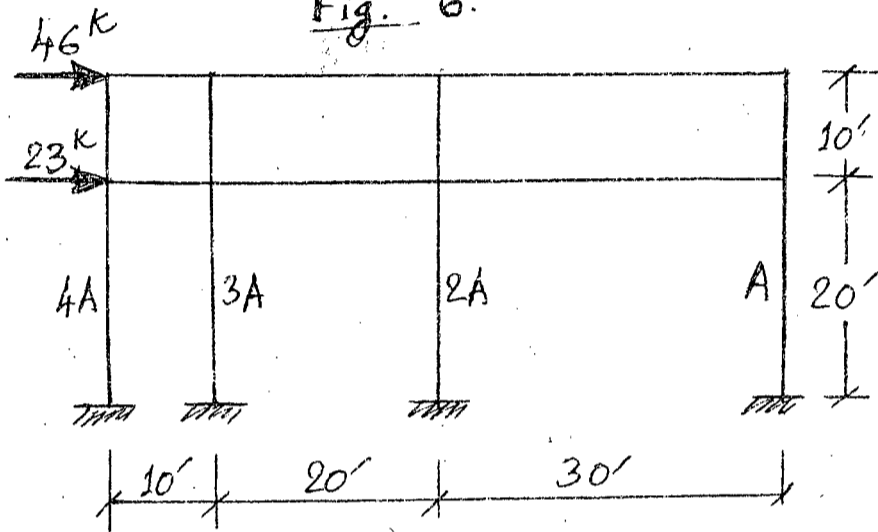

Fig. 8
11. Using cantilever method draw bending moment diagrams on compression side for all the columns and girders and also the shear force diagrams for the girders of the building frame shown in Fig. 8. Areas of the columns are as shown in the figure. (28)